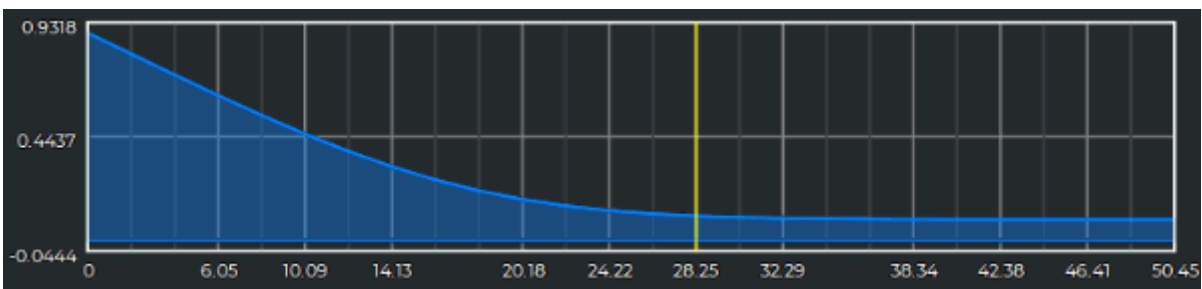

Figure 2.40: Option **Finite** is enabled
- The **Finite** option enables/disables transformations used to create response function graphs decreasing to zero over finite time after reaching the peak. The option is enabled by default. Figures 2.40 and 2.41 show response function graphs for the same ROI but different **Finite** option values.